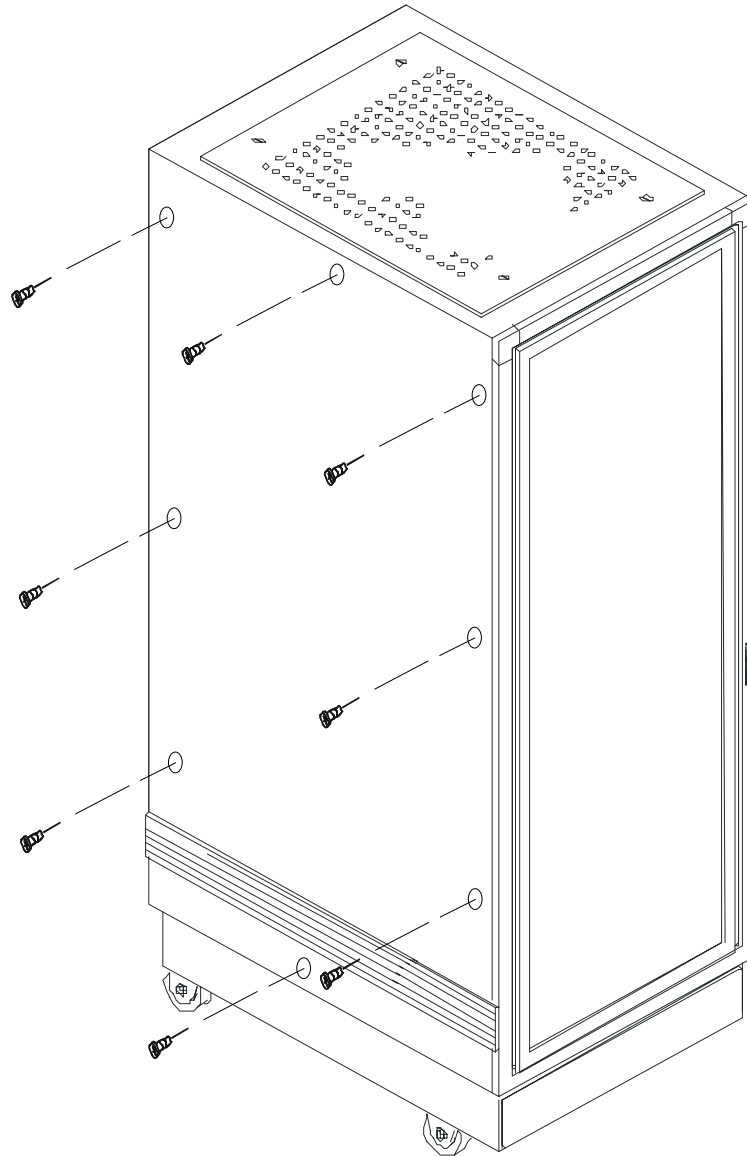

Figure 4-3. Removing the Side Panels.
1. Remove the eight Phillips-head screws securing each side panel to the rack. See Figure 4-3.